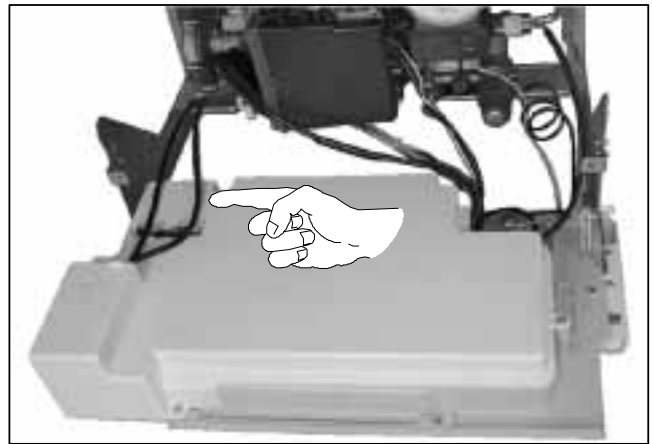

fig. 3.9
- 2 Route the electrical supply flexible cord and the external control flexible cord as illustrated in fig. 3.9.